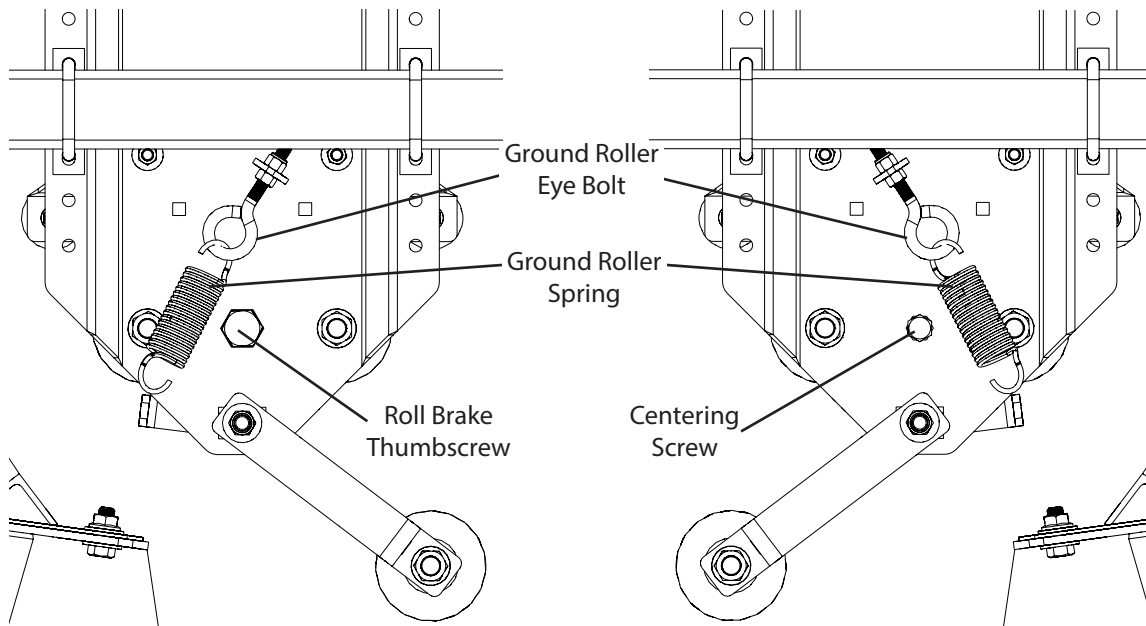

Figure 22: Mulch Roller Braking and Ground Roller Tension
- Adjust tension on the Ground Roller by adjusting the Eye Bolt that the Ground Roller Spring is attached to (Figure 22).
- Center the Mulch Rollers between the Mulch Roll Centering Plates by adjusting the Centering Screw to make sure that the Roll Brake Thumbscrew has sufficient range to be adjusted (Figure 22).
- To apply some resistance as needed to the mulch rollers by adjusting the Roll Brake Thumbscrew (Figure 22) to make the plastic mulch stretch tighter over the bed.